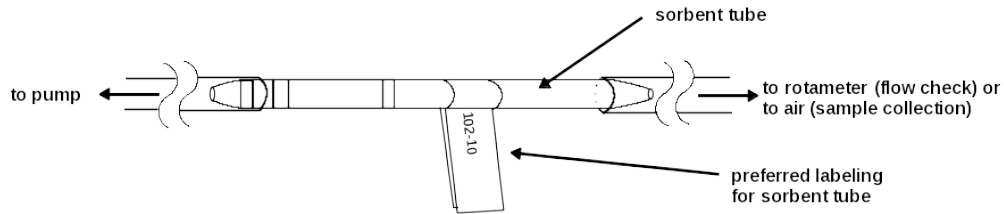

Figure T1-2. Diagram showing orientation of sorbent tube and placement of ID label.
NOTE T1-3. Direction of air flow through sorbent tubes. The arrow on the sorbent tubing MUST go toward the pump. If no arrow is shown on tube, examine the dark colored media in the tube. There will be a small section of media closer to one end that is capped by narrow ribbons of packing material. It is this section that must point toward the pump. This section is used to capture any breakthrough of formaldehyde that slips past the media before this smaller section. This section, that must point toward the pump, also happens to be the end of the tube where all the media is located (the other end is empty as diagrammed in Figure T1-2).
4.6 Label, record and store the sample. Get the sample ID label from subkit T1. Wrap the label around the opened sorbent tube as shown in Figure T1-2. Place a replicate ID label on the field blank row of *Formaldehyde in Air Sample Collection Log*. Temporarily store this sample in subkit T1 until it can be transferred back into Box 3 inside Kit (C) in the auto for transport back to the local base of operations where they can be placed into the freezer (See Note I3-4).
6.3 Label, record and store the sample. Get the sample ID label from subkit T1. Wrap the label around the opened sorbent tube as shown in Figure T1-2. Place a replicate ID label on the regular sample row of *Formaldehyde in Air Sample Collection Log*. Temporarily store this sample in the T1 subkit bag until it can be placed into Box 3 inside shipper Kit (C) used for cold transport back to the local base of operations where they can be placed into the freezer.
- (1) Obtain a new sorbent tube with 2 red caps** (loose).
- (2) Open a new sorbent tube.** Open both ends of the tube using the Procedure to Open Sorbent Tubes.
- (3) Place a "Field Calibration Check Only - XX" label on tube** (See **Note T1-5**). Wrap the label around the opened sorbent tube as shown in Figure T1-2. Be sure to place the label so that it is at least 1 " from the ends to allow room for the red caps which get placed on the opened ends after sample collection.